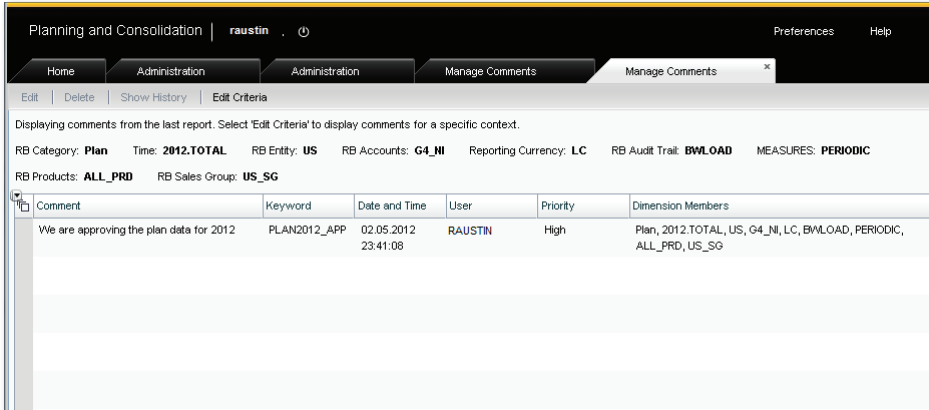

Figure 7.12 Viewing a Comment—Part B
8. After making your selections, click on the FIND button, which launches the MANAGE COMMENTS workspace in the Web Client and displays the comments for the selections (Figure 7.12).